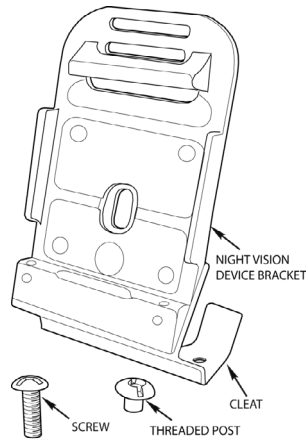

Figure 1. Old ACH NVG Bracket Assembly.
- a. Identify which NVG bracket is on helmet by referring to Table 1 and Figures 1 through 3.
- The black (old) ACH NVG bracket has a screw and threaded post as shown in Figure 1. See WP 0027, Additional Authorization List, for appropriate NSN.